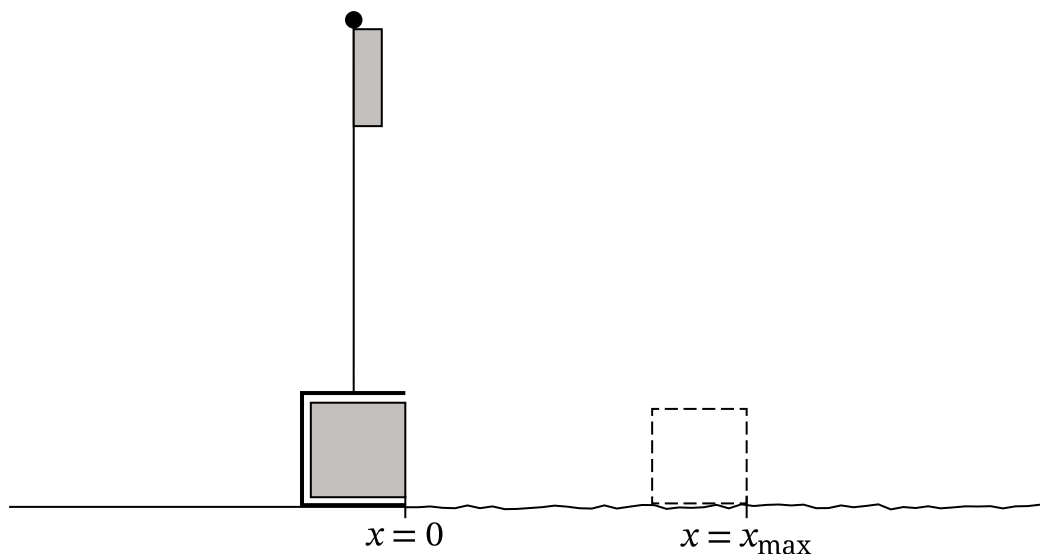

Figure 3
- C. The experiment is repeated, but the horizontal surface on which the block slides is replaced with a new rough surface, as shown in Figure 3. The coefficient of kinetic friction between the block and the new surface is  $\mu$ .